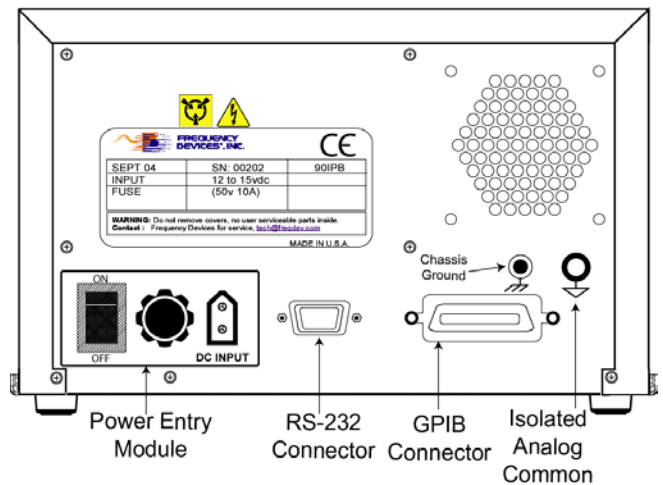

Figure 2.1c – 90IPB Rear Panel
**3.5 – DC Line Voltage Operation (90IPB) - See Figure 2.1c**